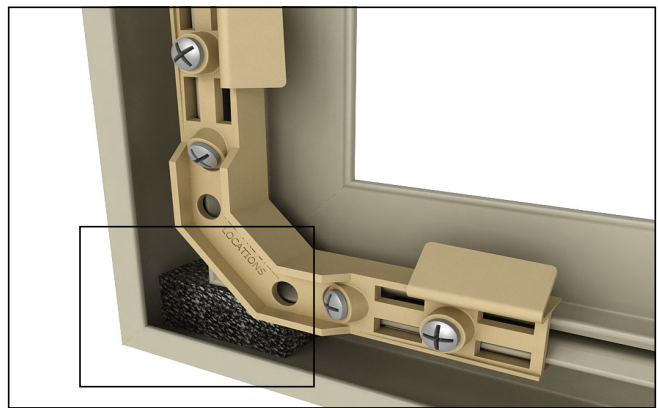

Figure 9
4. Place reticulated foam over the weep holes in sill piece. See *figure 9*.